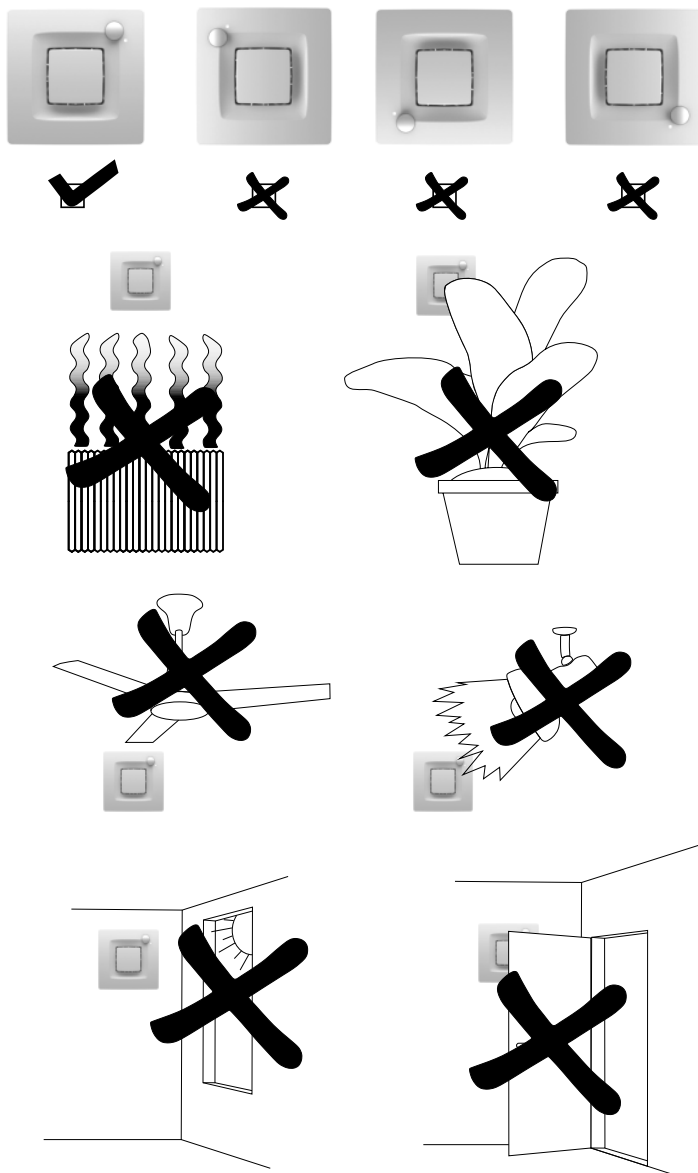

Fig. 3
***The SILENT DUAL is provided with a PIR (passive infra-red) detector. To work properly, the extractor must be installed in such a way that detection can be carried out easily, avoiding the situations indicated in fig.3.***